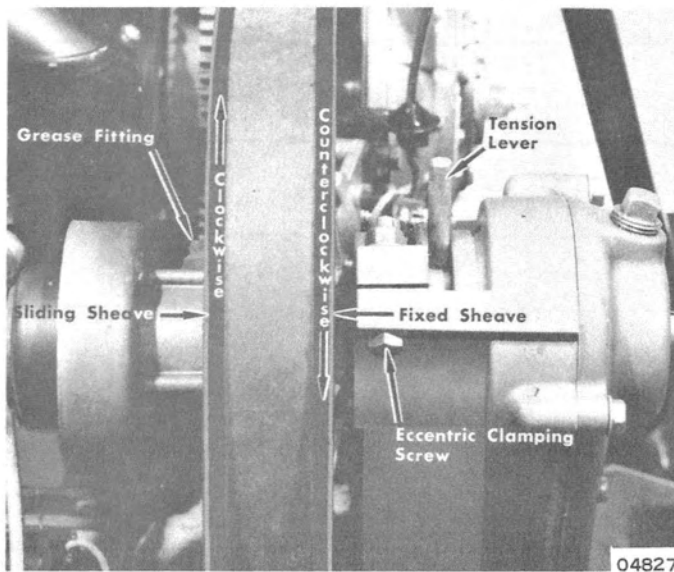

Figure 1. Driven Sheave Assembly
1. Spread the 2 halves of driven sheave to ease belt tension. Rotate sliding half of sheave in a clockwise direction while holding fixed half of sheave in a counterclockwise direction. (Figure 1)